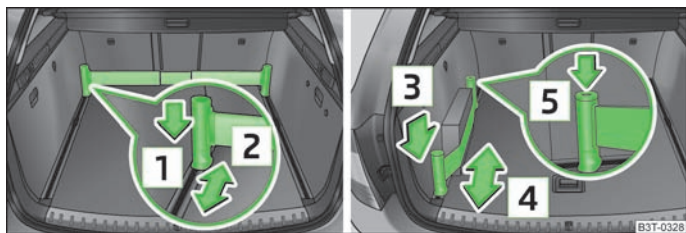

Fig. 77 Telescopic pole and tensioning strap
- Press the top part of the holder in the direction of the arrow **1** » Fig. 77 and simultaneously push in the desired position in the direction of the arrow **2**.
- Press the holder in the direction of the arrow **3** » Fig. 77 and simultaneously push in the desired position in the direction of the arrow **4**.
- The tensioning strap can also be fully reeled up by pressing the button **5** » Fig. 77.